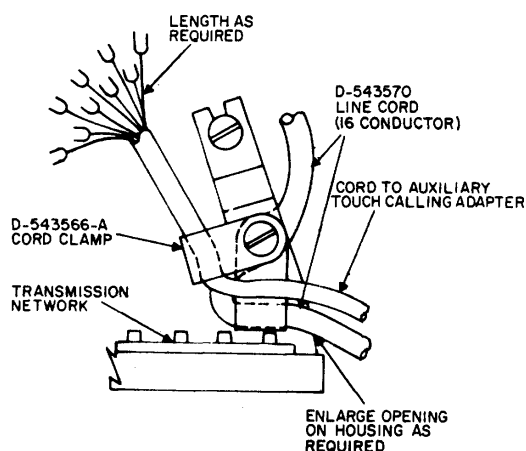

Figure 14. Routing and Securing Cord from Auxiliary Touch Calling Adapter to Type 187 (Desk or Wall) Telephone.
- (a) Route and secure the adapter's cord to a Type 187 desk or wall telephone as shown in Figure 14.